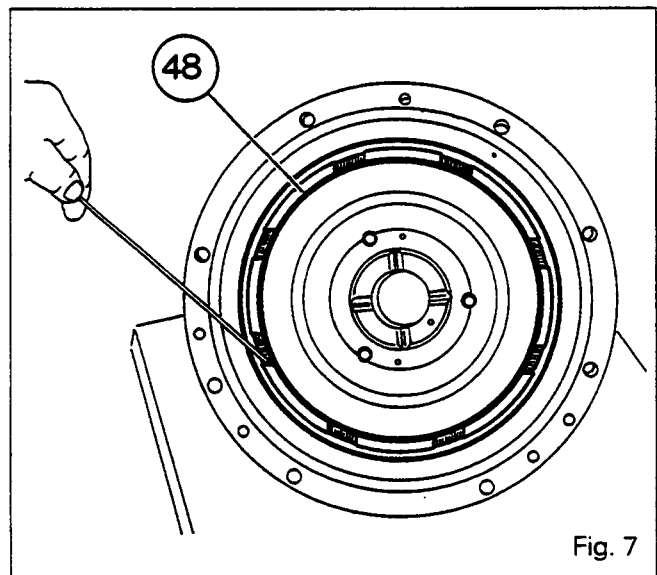
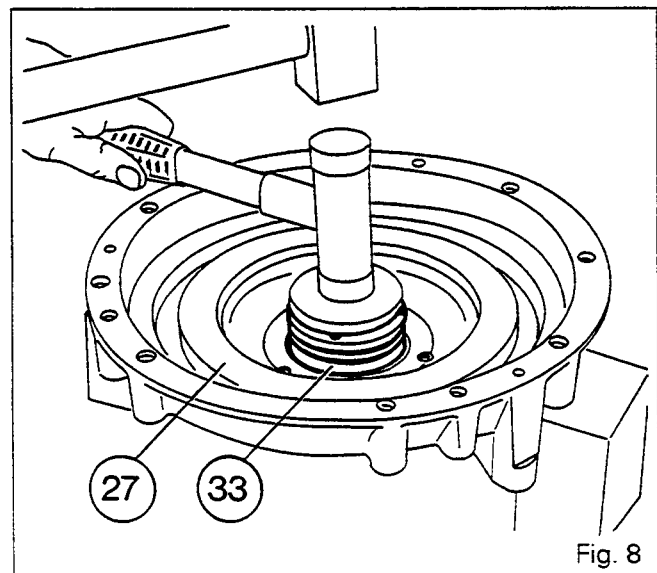

Fig. 7
Fig. 8
On Speedshift version input units, use sling 3376883M1 (Fig. 8) when removing them. The operating procedure is identical to that for the Dynashift version.
Before removing the unit, check that the bolts "A" (Fig. 8) are of the required length and are properly tightened.
9. Extract circlip (37) and take out lug washer (38).
10. Withdraw shaft (36) from the front of the cover.
11. Remove washer (39).
12. Withdraw piston (48) from the cover (Fig.7).
13. Remove seals (22) and (23) and discard them.
15. Take out needle-roller bearing (32) and discard it.
16. Drive ring carrier (33) out of cover (27) (Fig.8) (Work from the rear of the ring carrier using a plastic-faced mallet as a drift).